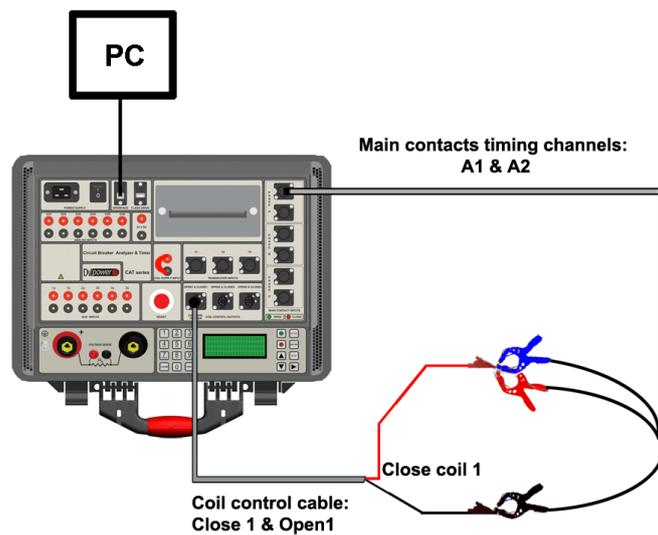

Figure 6-3: Coil Control test – connection
- I. Connect the CAT device to the PC. Connect the Main Contact cables and the Coil Control cable – CLOSE pair, as shown in the Figure 6-3. Connect jumper to the Coil supply input (Figure 6-3).